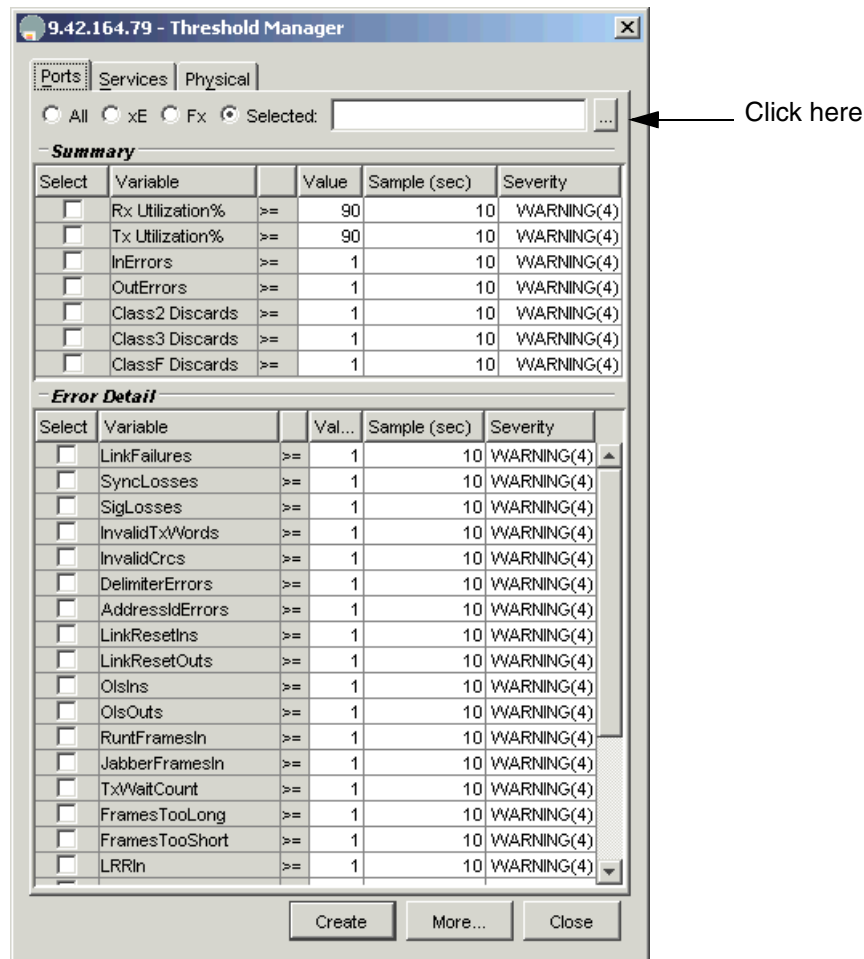

Figure 2-93 Threshold manager Ports tab
1. Choose **Events—>Threshold Manager** from the main menu and click the **Ports** tab. You will see a window as shown in Figure 2-93.